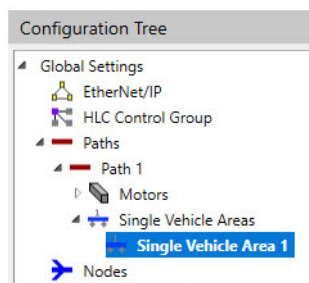

Figure 4-129: Configuration Tree Showing Single Vehicle Area Added
*The list of **Single Vehicle Areas** is expanded and displayed below **Single Vehicle Areas** in the Configuration Tree, see Figure 4-129 with the new SVA added to the list. The SVA is automatically numbered with the next **Single Vehicle Area ID**.*